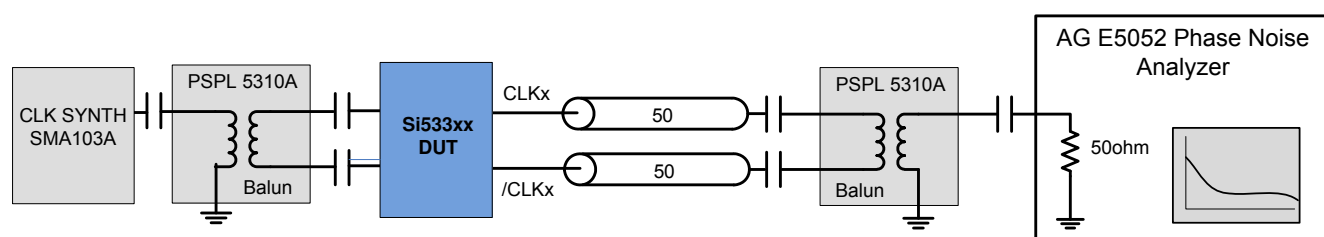

Figure 1. Differential Measurement Method Using a Balun
3. Measured differentially using a balun at the phase noise analyzer input. See Figure 1.
Total Jitter (Diff): Combined source and clock buffer phase noise measured as a differential output to the phase noise analyzer and integrated from 12 kHz to 20 MHz. The differential measurement as shown in each figure is made using a balun. See Figure 1 on page 9.